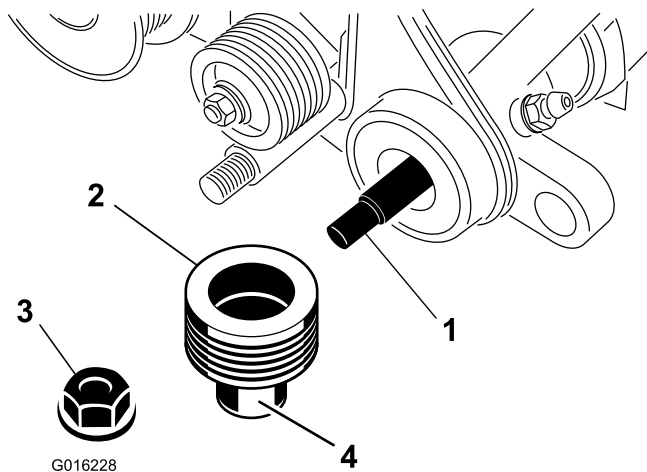

Figure 9
17. Apply grease to the seal surface of the driven pulley, as shown in Figure 9.
18. Slide the pulley onto the groomer shaft (Figure 9).
19. Secure the pulley to the shaft with a flange locknut and torque to 23 to 28 N·m (17 to 21 ft-lb) (Figure 9).
20. Apply grease to the seal in the left support plate and to the end of the groomer shaft (Figure 9).